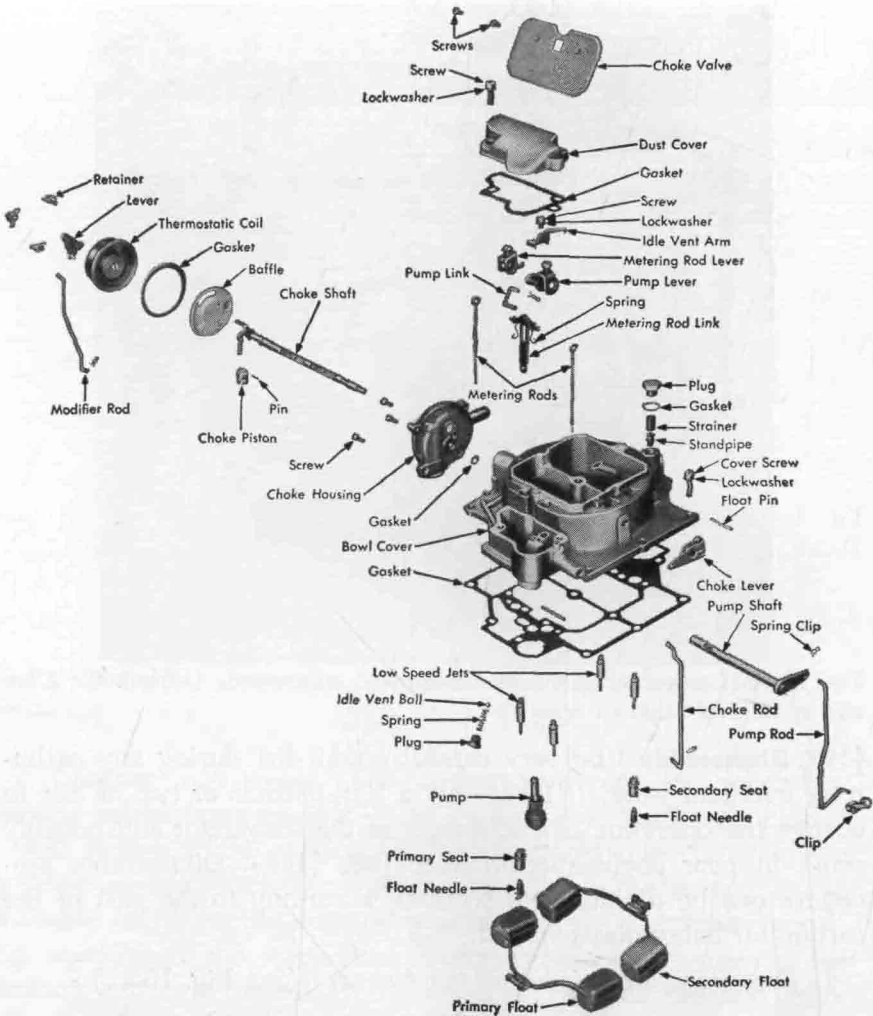

FIG. 10-41. Disassembled view of bowl cover. (Cadillac Motor Car Division of General Motors Corporation)
1. *Disassembly of air horn (bowl cover)* (see Fig. 10-41)